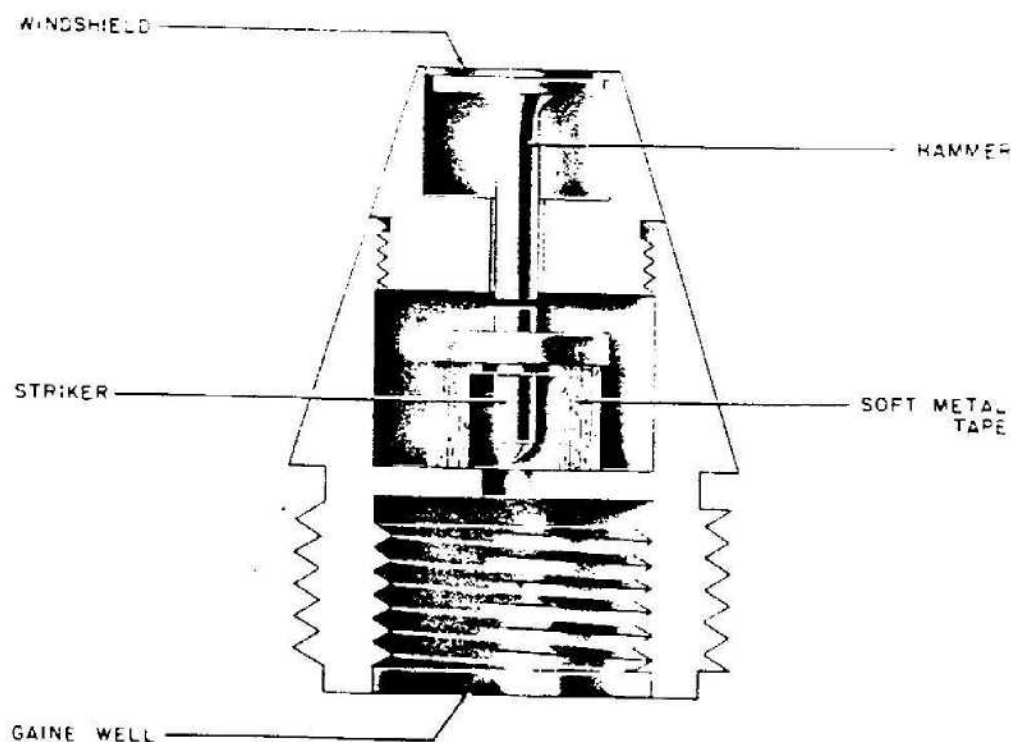

Figure 576—A. Z. 49
**EMPLOYMENT:** Nose fuze for 20-mm ammunition. (See fig. 576.)